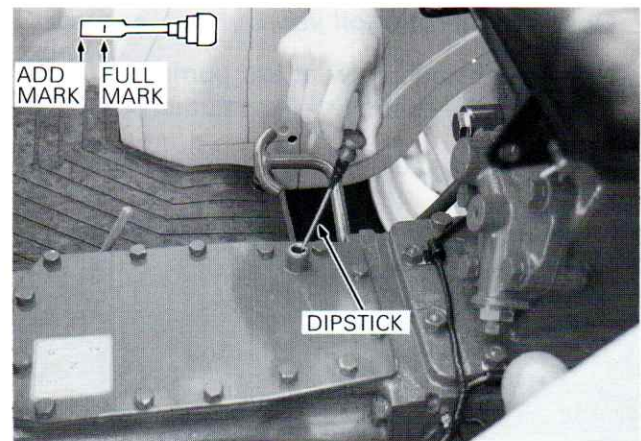

Figure 40 — Transmission, Rear Axle and Hydraulic System Oil Level Dipstick
1. With the tractor standing level and the engine off, check the oil level with the dipstick, Figure 40.